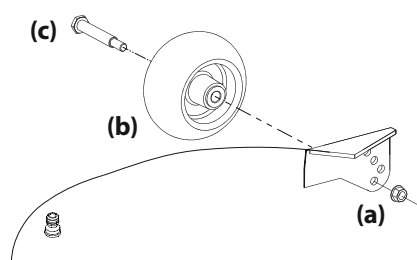

Figure 11
6. Remove the lock nut (a) gauge wheel (b) and shoulder screw (c) from the deck. See Figure 11.